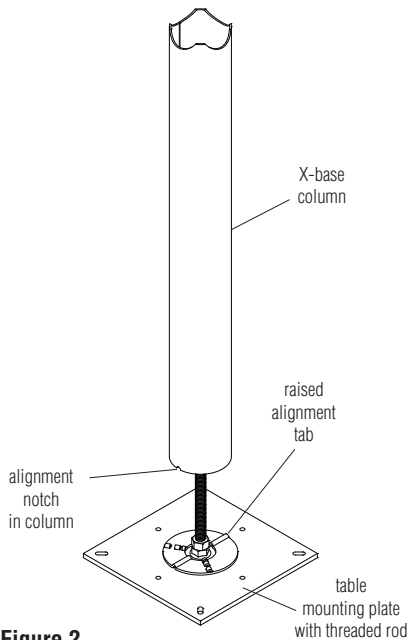

Figure 2
4. Position the X-leg column over the threaded rod and center it on the alignment washer on the mounting plate. Rotate the column around until the alignment notches of the column are seated with the raised alignment tabs on the alignment washer (Figure 2 & Detail A).